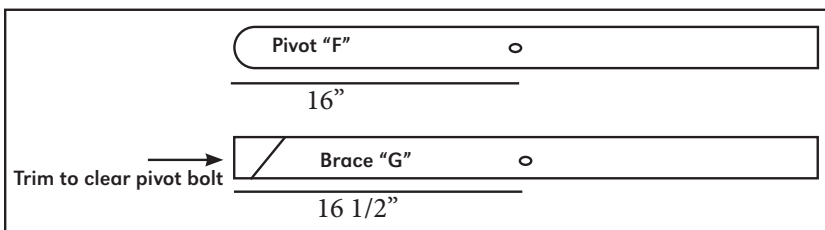

Figure 4
- 4) Cut pivot legs "F" to length. In pivot legs "F" drill appropriate-size hole centered $\frac{3}{4}$ " from one end for pivot bolt. Drill second hole centered $16\frac{1}{2}$ " from top to connect legs. (See Fig. 4) Fit to table bottom runner and round off edge as necessary to allow for rotation as shown in Fig. 3.
- 5) Cut brace legs "G" to length. Drill hole centered $16\frac{1}{2}$ " from end to connect legs. See Fig. 4. Fit pivot "F" and brace "G" legs together temporarily and trim end of "G" to allow for clearance for pivot bolt. We used an approximate 30° angle.